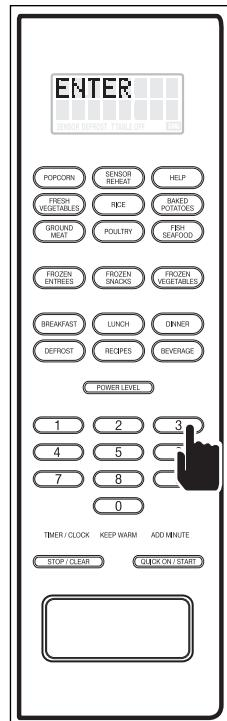

Figure 3-50.
2. Press the number 3 key and "ENTER - START TIME" will flash on the digital display (See Figure 3-50).